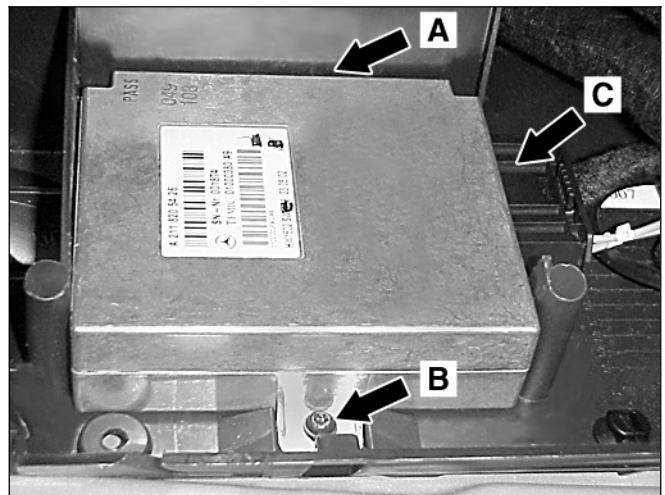

Figure 18
4. Mount the VCM by sliding the rear mounting-tab into the slot (A, Figure 18—rear tab and slot not visible in photo) and fastening the front mounting tab with the previously removed T10 Torx screw (B, Figure 18).
5. Connect the power cable connector (C, Figure 18).